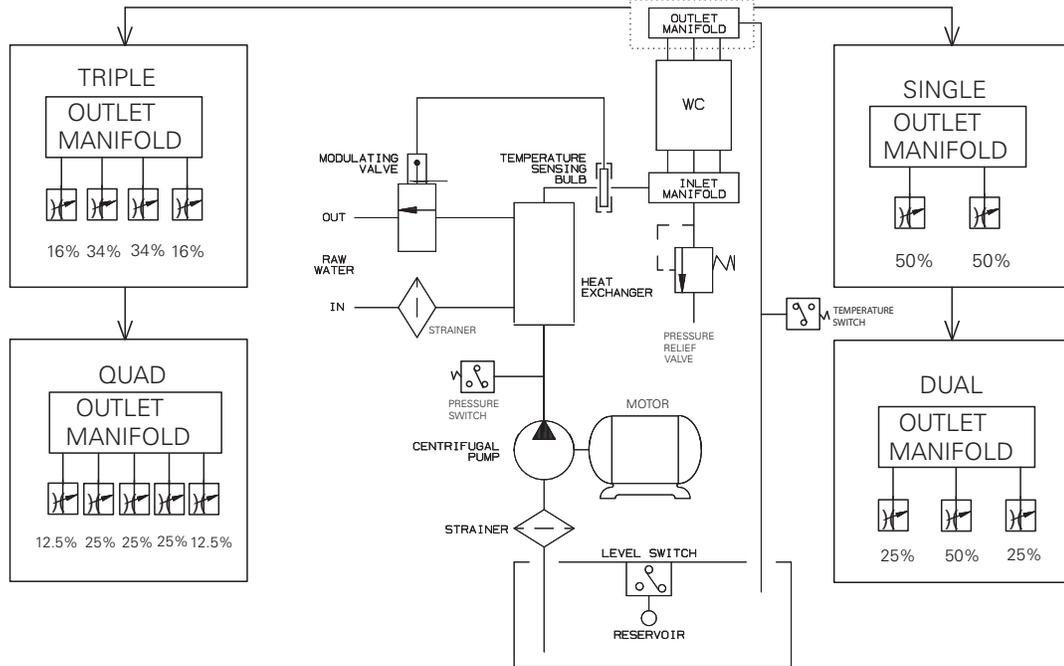

Figure 5
2.4.5 Inlet and outlet coolant manifolds must be provided. Manifolds should be constructed to allow for even flow through all ports. On 18WCB2 thru 48WCB2 tensioner/brake assemblies, two hoses can be routed to the reaction plates (30) to assist with balancing the flow to each wear plate.
Note: Reaction plates (30) in 18WCB2 thru 48WCB2 tensioner/brake assemblies typically have two inlet and two outlet ports to assist with obtaining balanced flow to each cooling chamber. In the event that a multiple disc WCB2 tensioner/brake assembly includes an older style reaction plate with only one inlet and one outlet port, water flow should be restricted from the outlet of the pressure plate (13) and mounting flange (1) to allow for equally proportional heat dissipation at each cooling cavity. See Figure 5.
2.4.9 Figure 5 illustrates a typical closed loop liquid to liquid coolant system. The heat exchanger and temperature control would be replaced with a radiator, fan and motor in a liquid to air system.